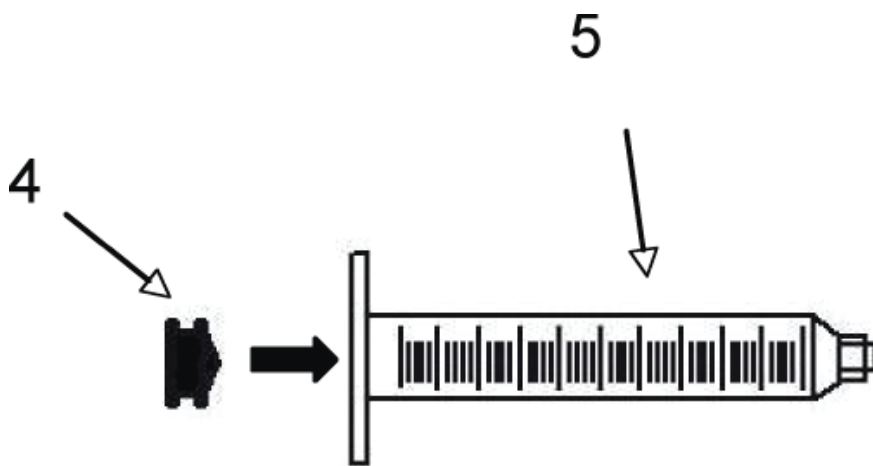
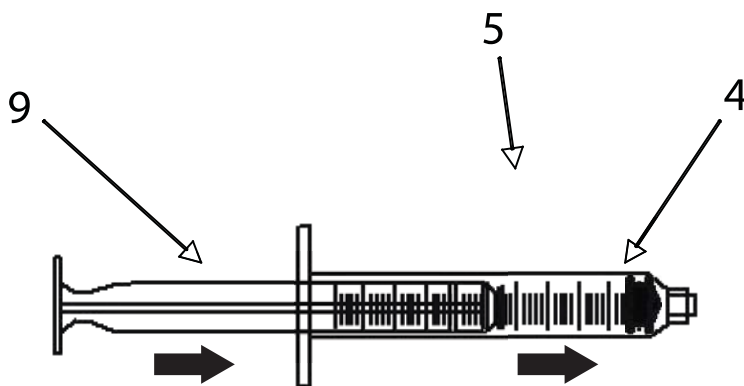

Figure 4.18. Viscous Fluid Extraction Setup.
Figure 4.19. Viscous Fluid Extraction Setup.
4. Place the black piston into the syringe barrel and use the plunger to push the piston all the way down to the tip of the syringe. (Refer to Figure 4.18 and Figure 4.19.)